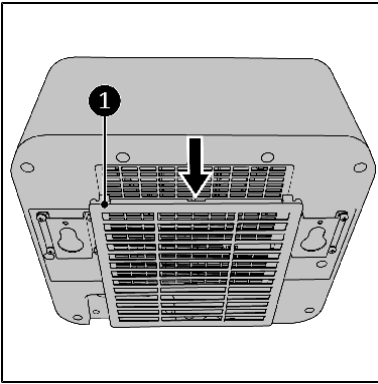
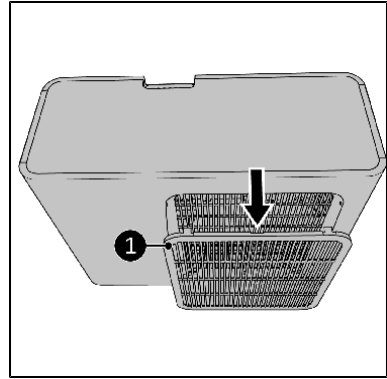

Figure 15
Figure 16
2. Remove the grille (Fig. 15, Ref. 1 for the indoor unit; Fig. 16, Ref. 1 for the outdoor unit), then remove the filter.